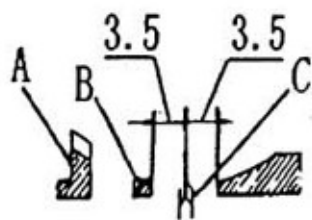

Fig. 25
The center of Feed Lifting Wheel C should coincide with the center of the V slot of the pressing plate (Fig. 25 & 26).
- b. Loosen Screw E and Screw G and move the feed lifting shaft left or right. Tighten Screw E and G again when the position (Fig. 25), making sure the feed lifting shaft will not move axially but can rock freely, and it will not collide with left and right presser feet.